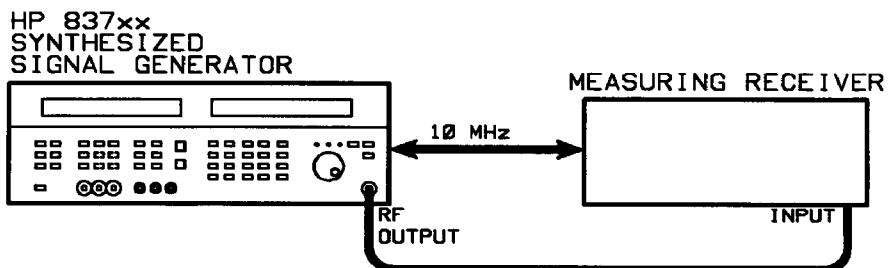

Figure 3-7. 10 MHz to 1 GHz Low Level Accuracy Test Setup using Measuring Receiver
1. Connect the equipment as shown in Figure 3-7.